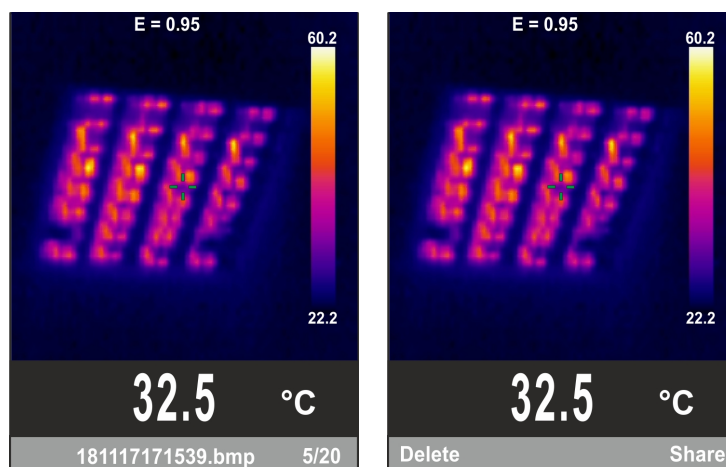

Fig. 7: Recalling, deleting and sharing the image on the display
14. Use the keys **▲** or **▼** and key **OK** to select option “Recall photo”. The screen in Fig.7 – left side (corresponding to the last saved image) is shown on the display:
16. To delete the image, press the trigger key **T** on the recalled image. The screen in Fig.7 – right side appears on the display. Press key **T** again to exit the function.